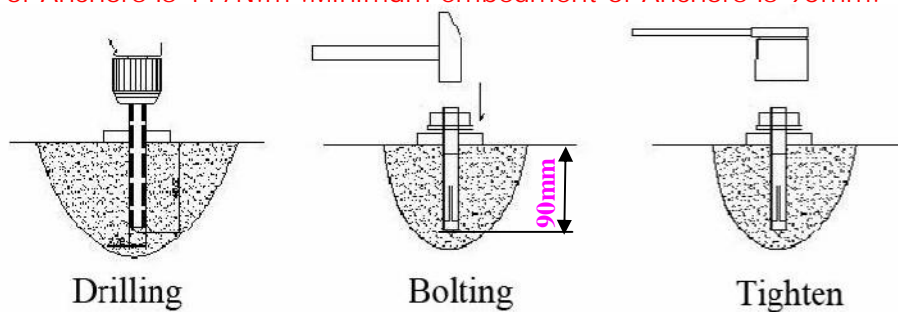

Fig. 17
2. Using a rotary hammer drill drill all the anchor holes and install the anchor bolts. Then tighten the anchor bolts (See Figure 17 below).